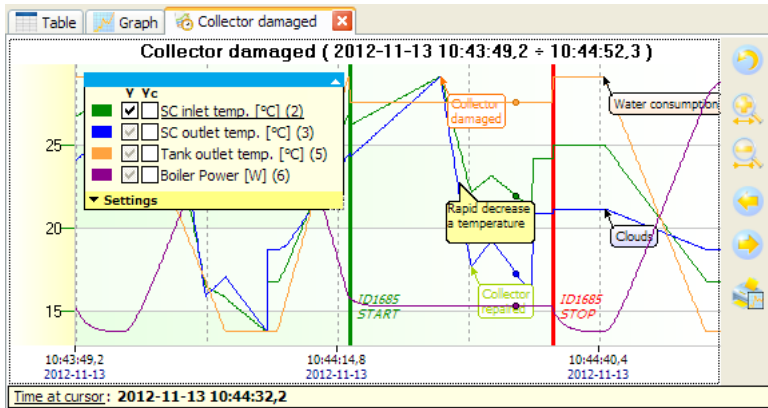

Figure 9.1. Notes in many styles define various types of information
**DAQ Manager** allows to add annotations on the graph to the selected points. Annotations in the form of notes can be helpful to mark significant events of the recorded process. In the case of reference graphs annotations can be useful for marking reference points or placing other information. Notes can be in the many form of user-defined styles, which often helps the visual interpretation of information (Figure 9.1).